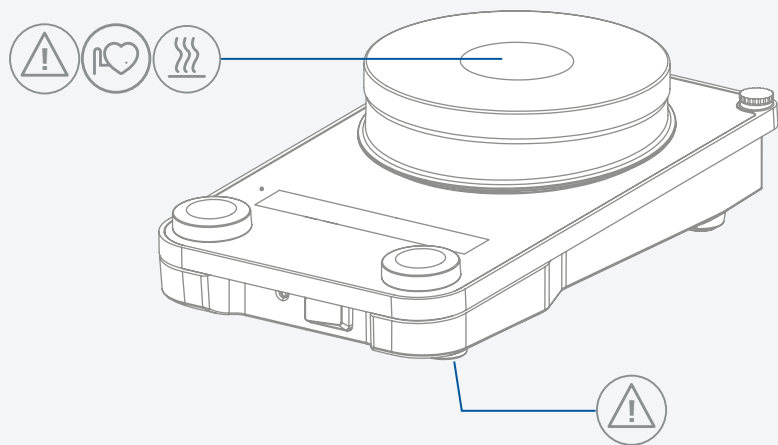

Fig. 1
- › Pay attention to the marked sites in **Fig. 1**.